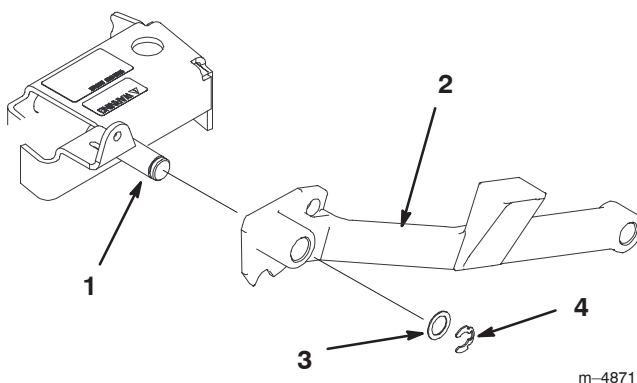

Figure 81
3. Remove the retaining ring and flat washer securing the push arm to the mower (Fig. 81).
6. Place push arm onto carrier frame pin and secure with 1-1/2 inch flat washer and retaining ring (Fig 81).